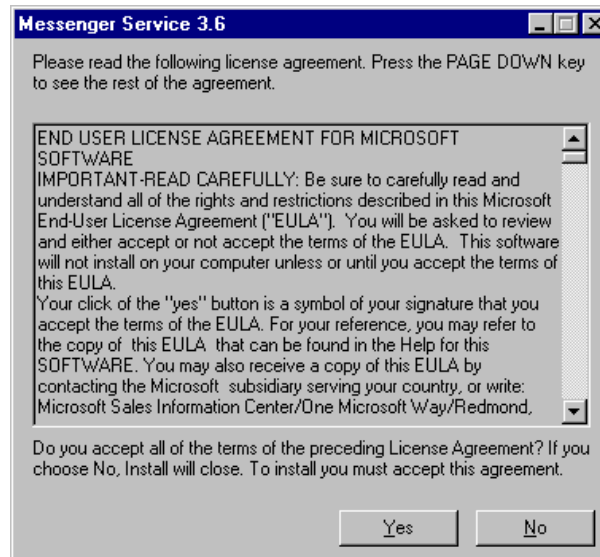

Figure E.1. Messenger Service License Agreement
2. Read the Messenger Service 3.6 License Agreement, as shown in **Figure E.1**. If you agree with the terms, click the **Yes** button to continue. The installation will copy files to your system.